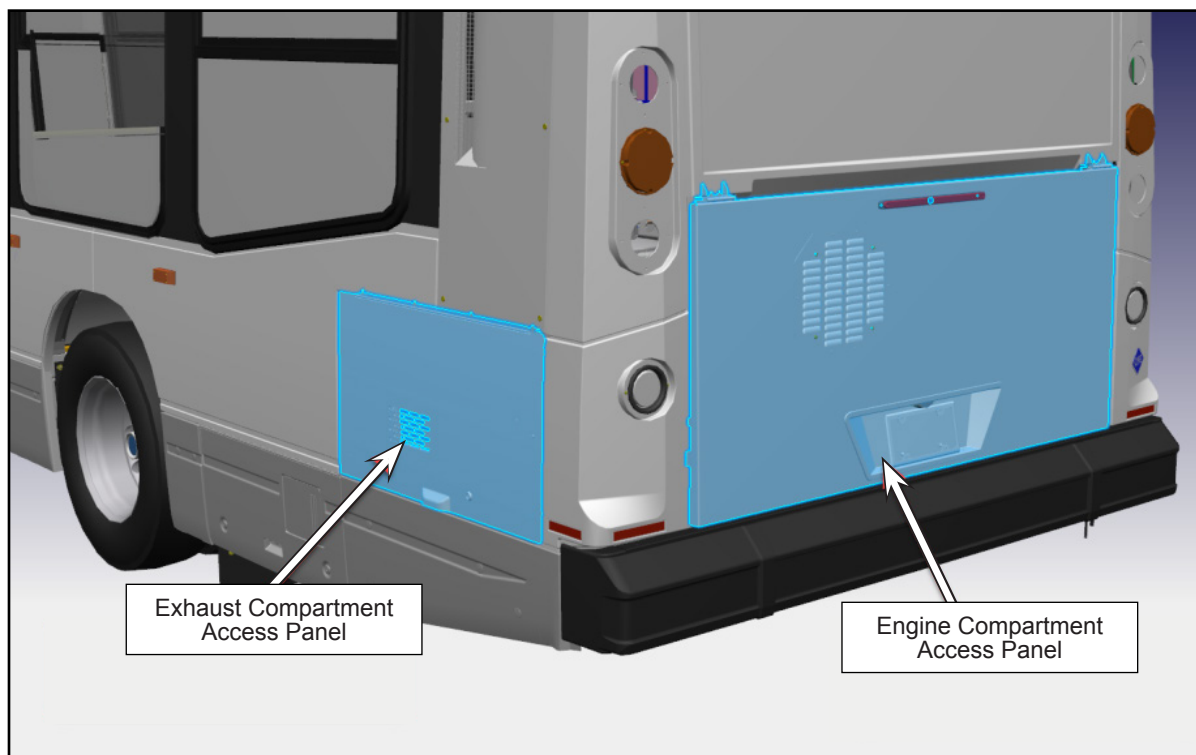

*Figure 3 - Typical View of Access Panels to be Removed*
- 1.3. Open the exhaust compartment access panel and the engine compartment access panel (see Figure 3).